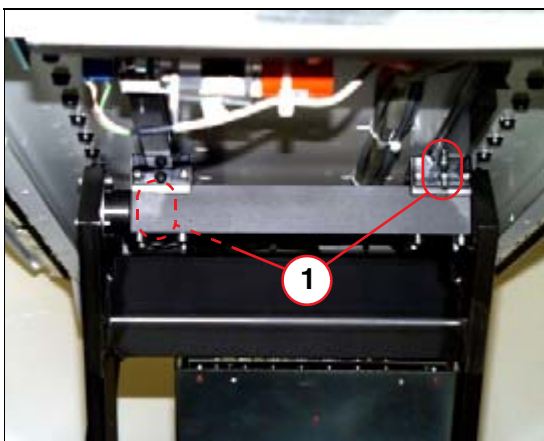

Fig. 3: Scissor: location of grease nipple
- Place the connector of the lubricant gun on one of the lubrication fittings of the guide rail to be lubricated (1/ Fig. 3 / p. 28).